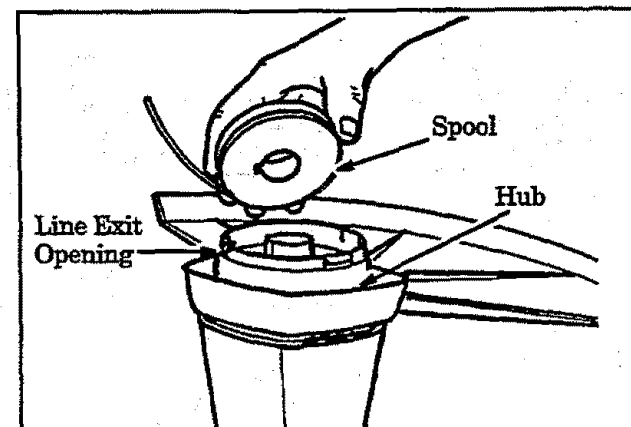

Figure 13
- c. Remove the spool. Figure 13.
- f. Set the spool into the Hub. Figure 13. Allow 3 to 4 inches of line to extend through the line exit opening. Figure 13.